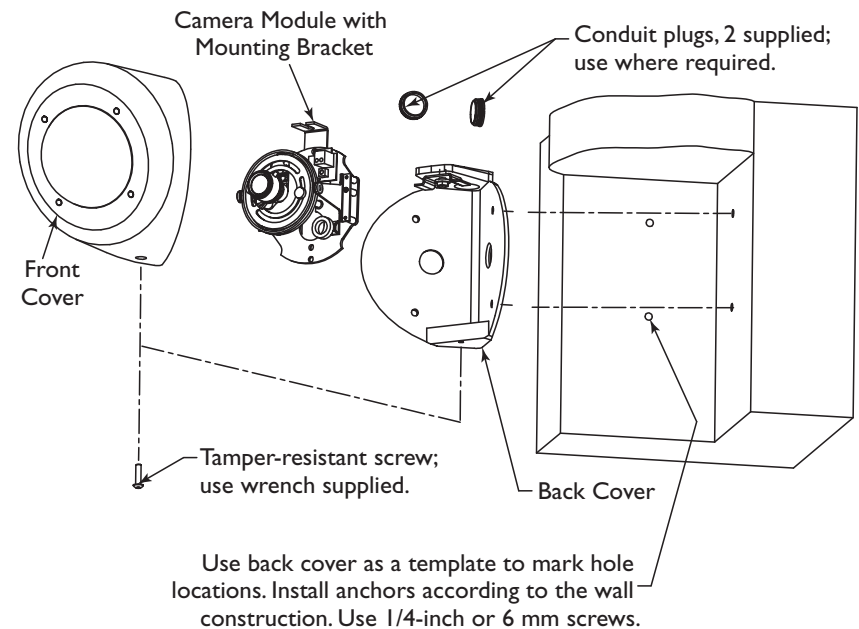

Figure 1 MLAC Corner
3. Using rear cover as a template, mark screw holes on the corner wall (see **Figure 1**).
- Replace cover and secure using the supplied tamper-resistant screw (See **Figure 1**).